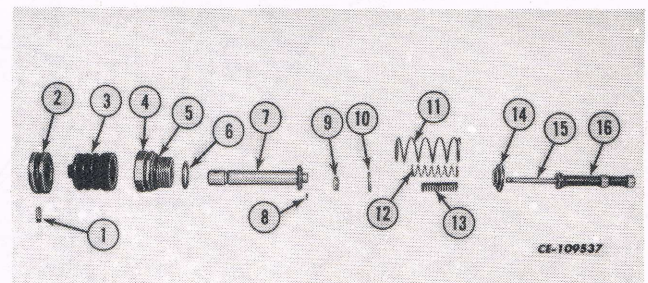

Fig. 5
1. IPTO valve (for components, refer to Fig. 5)
2. Remove the pin (1) securing the valve stem to the IPTO collar (2). See Fig. 5.
3. Remove the pin (8) securing the control valve to the valve stem (7) and remove the springs (11, 12 and 13), retainers (9 and 14) and washer (10). See Fig. 5.